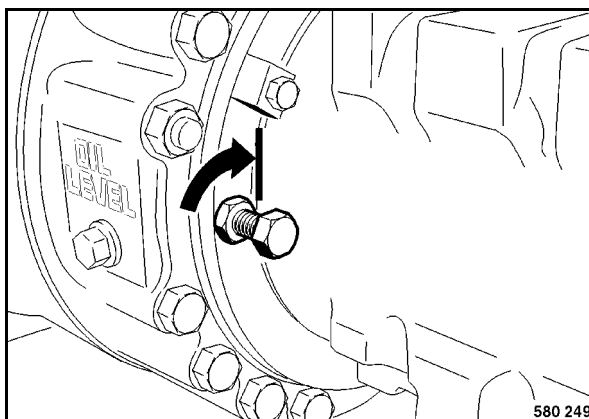

Fig. 51
- Turn the brake releasing screws (Fig. 51) back in again, until they abut against the brake piston.